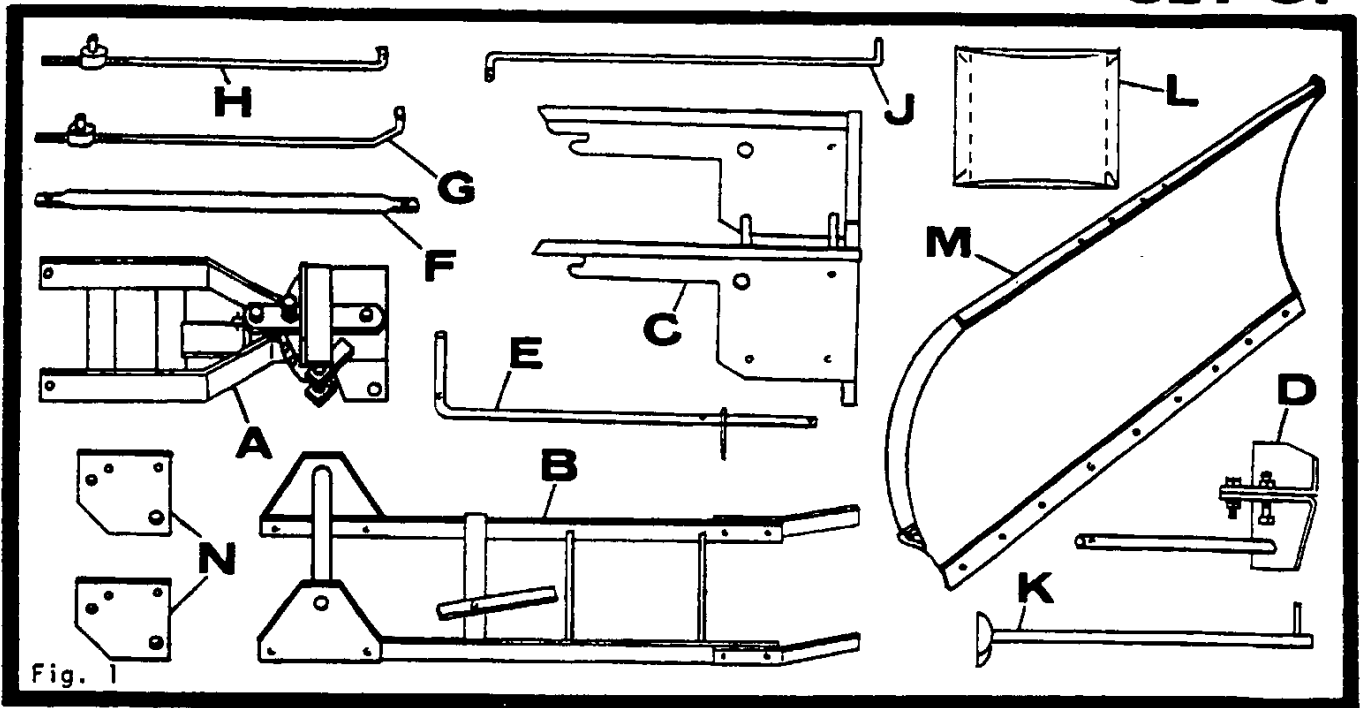

Fig. 1
The dozer blade attachment consists of the following: (See Fig. 1)
4. Lift rear of mounting frame (B) to align holes of mounting frame with holes in anchor plates (A). (See Fig. 1)
5. Slide locating pin (E) through holes in anchor plates and mounting frame.
6. Secure locating pin (E) with hair cotter pin (F) at each end.